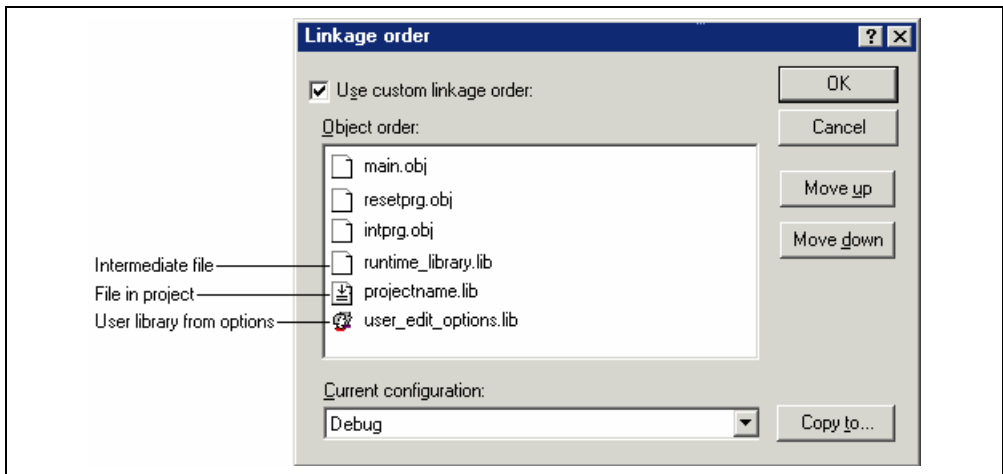

Figure 3.25: Linkage order Dialog
2. On the dialog displayed click the Use custom linkage order check box (figure 3.25).